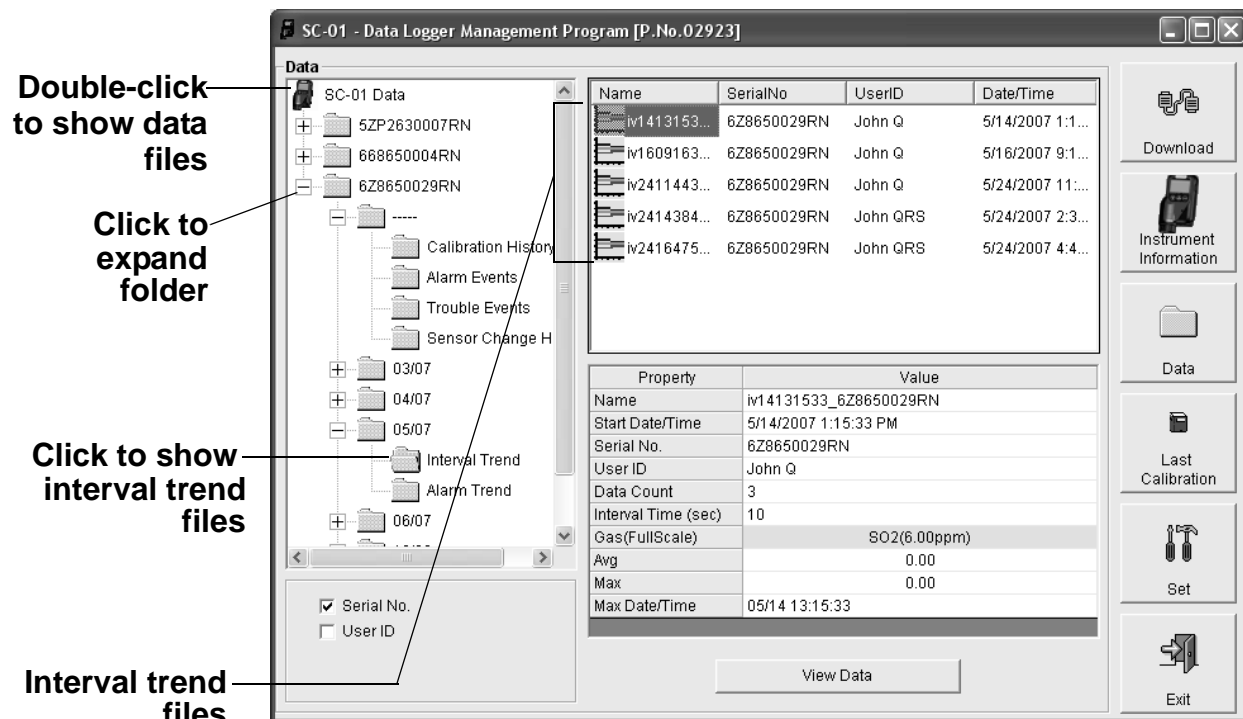

Figure 36: Data Window - Selecting Interval Trend Data Files
- If you click the **Summary** button, the data window will split into two frames, one above the other, with the data table in the lower frame and the session summary information shown in the upper frame. The session summary frame is the same as the one shown in the lower right frame in Figure 36.
NOTE: The data count shown when you have selected an interval trend data file, as in Figure 36 above, can be more than five if you have events, such as the GX-2003 going into and out of alarm, but you may not have five scheduled data points.
- If you click the **Summary** button, the data window will split into two frames one above the other with the graph in the lower frame and the session summary information shown in the upper frame. The session summary frame is the same as the information shown in the lower right frame in Figure 36.